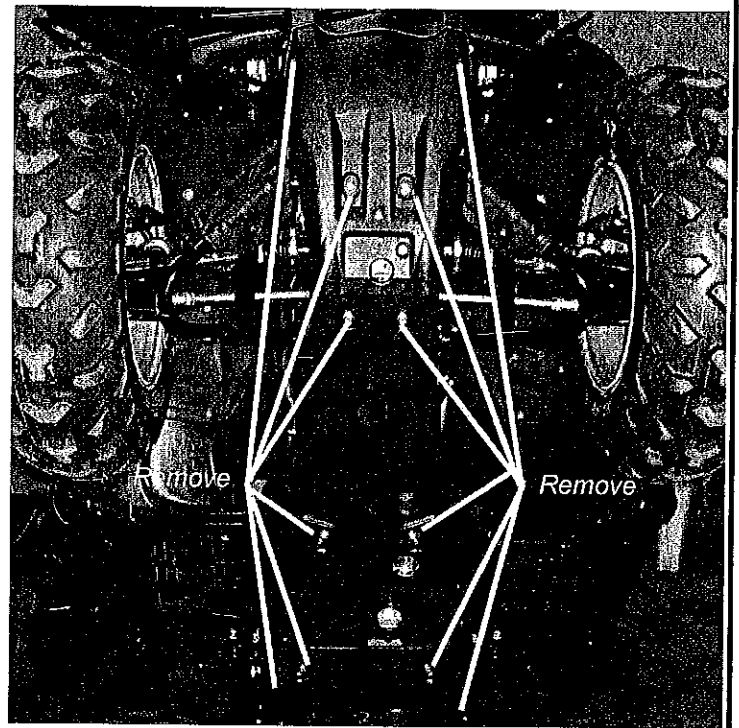

Figure 5 - Remove Plastic Skid Plate
- Remove the twelve M6 bolts securing the stock plastic skid plate and remove the skid plate, figure 5. Keep the M6 bolts for reassembly.